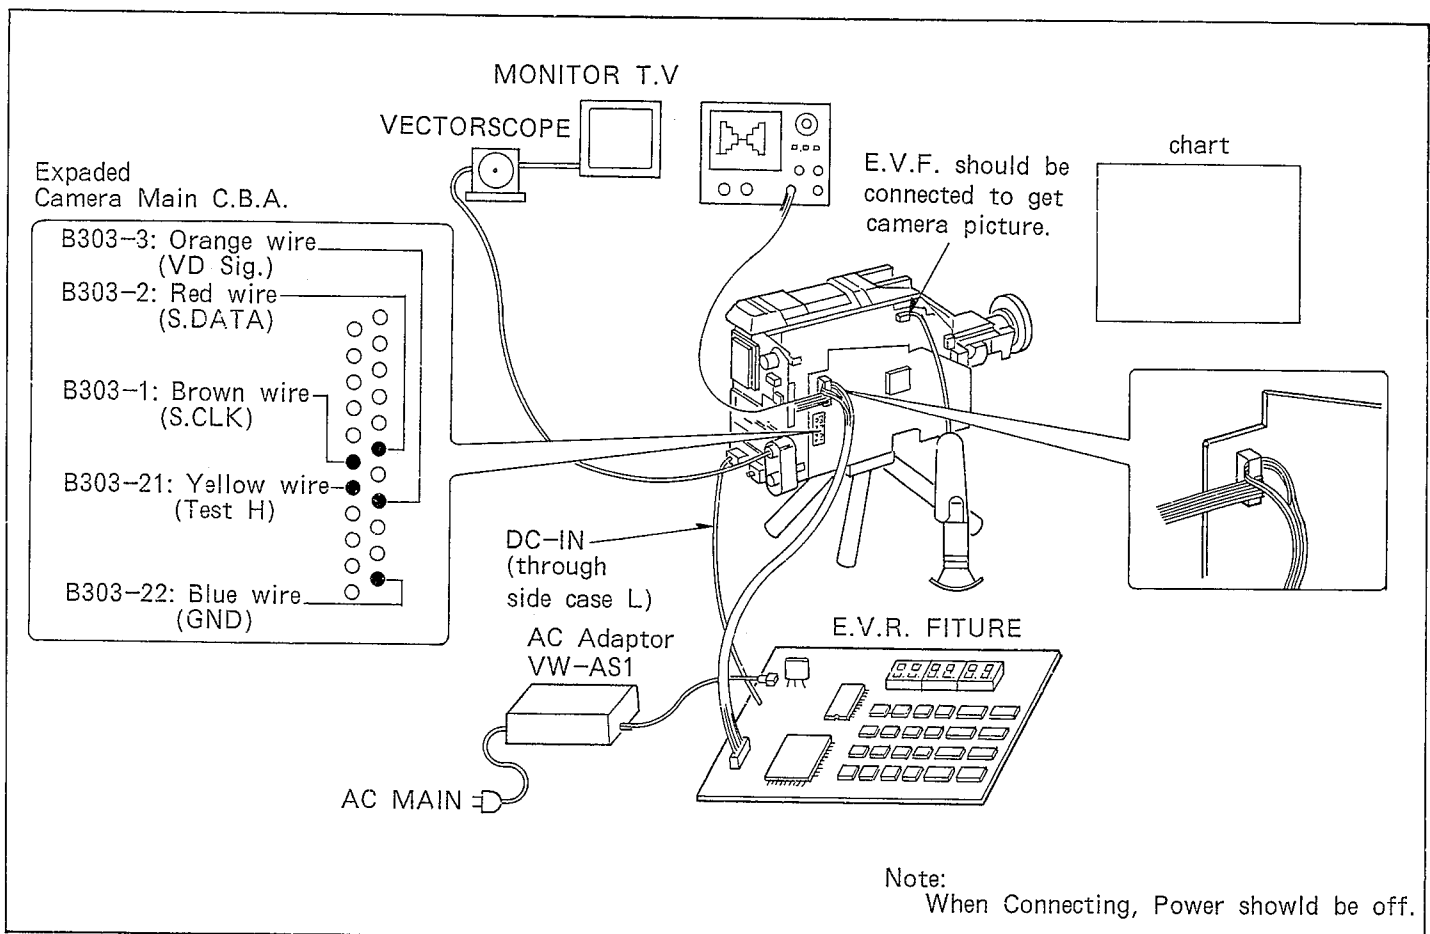

Fig. C3
- 1) Remove both side case (R) and (L) referring disassembly method.
- 2) Connect the E.V.R. FIXTURE and measuring equipments as shown in Fig.C3.
- 2) Regarding the connection of EVR, refer to preparation. (Fig.C3)
- (4) Connect the EVR to camcorder. (Refer to Preparation Fig.C3)
- (5) Perform the initial setting by pushing "SHIFT 1" key and "1" key together.
- (6) Read the data of Tele side and wide side in EEPROM as follows;
- (7) Set the command(CMD) to "01".
- (8) Set the address(ADR) to "25" for TELE.